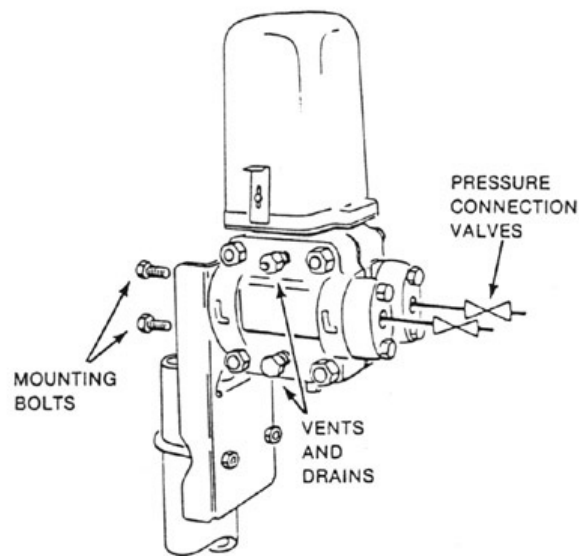

Figure 5.
1. Close both pressure connection valves. See Figure 5.